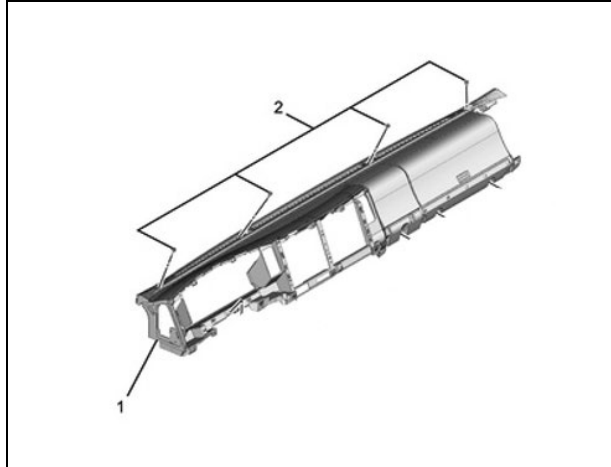

Figure 52
52. Remove the four (4) instrument panel (IP) mounting bolts. (See Figure 52.)